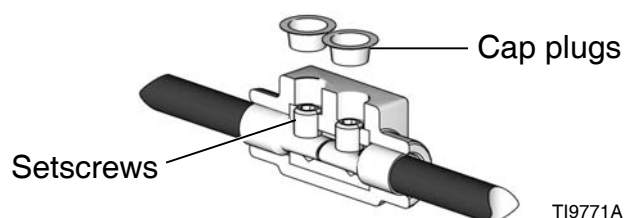

FIG. 10
NOTE: When torqued to 60 in-lbs (6.78 N•m) setscrews will be approximately flush with connector. See FIG. 10.
- f. Insert cap plugs over setscrews. See FIG. 10.